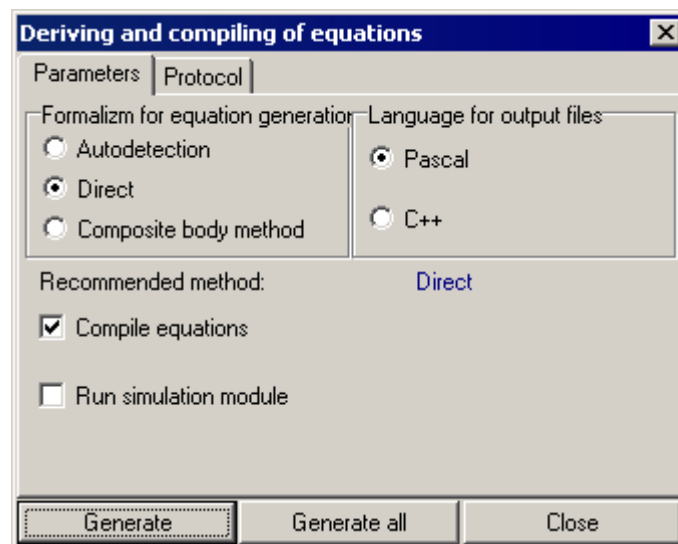

Figure 2.23.
2. Generate and compile equations of motion. Click the **Object/Generate equations** menu item. The new dialog window appears. Turn on the **Compile equations** flag. Change the **Output language** if necessary and click the **Generate** button (Fig. 2.23.).